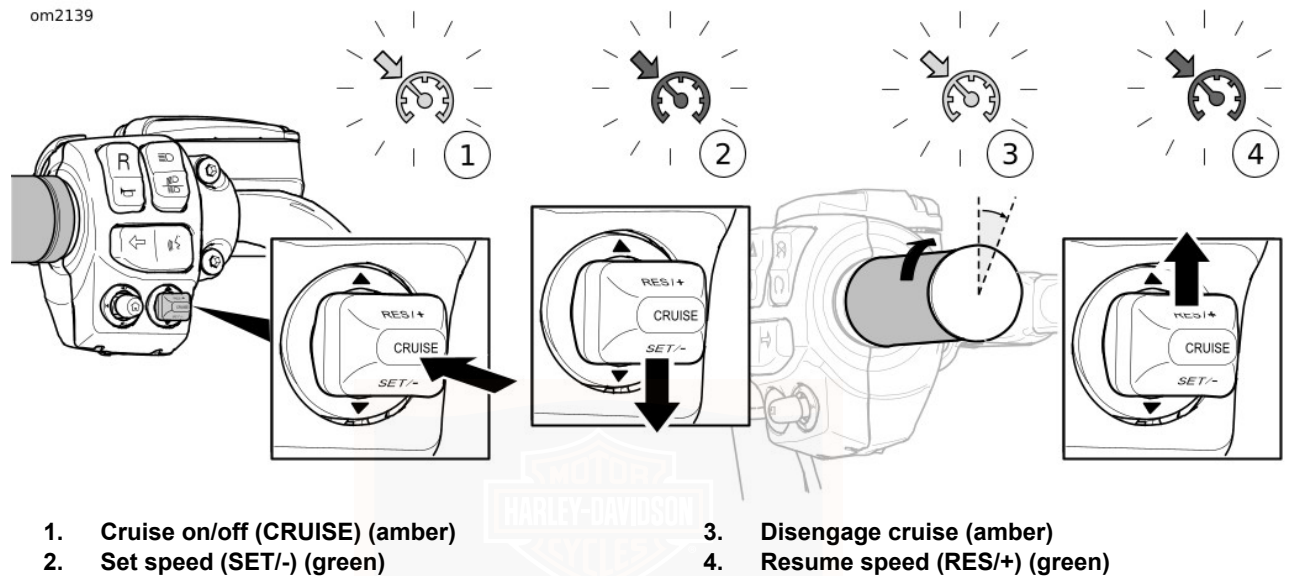

Figure 13. Cruise Control
See Figure 13. Press the CRUISE switch to turn on cruise (1). When on, the cruise icon in the speedometer face glows amber.
See Figure 13. When the motorcycle reaches your intended speed, press the SET/- switch down to set the cruise speed (2). The amber cruise icon changes to green.
See Figure 13. To drop out of cruise speed, roll the throttle closed through the roll-off switch (3).
See Figure 13. If cruise has been disengaged yet the cruise indicator is amber, pressing the RES/+ switch up resumes cruise (4). The icon glows green. The motorcycle automatically resumes cruise at the set speed.